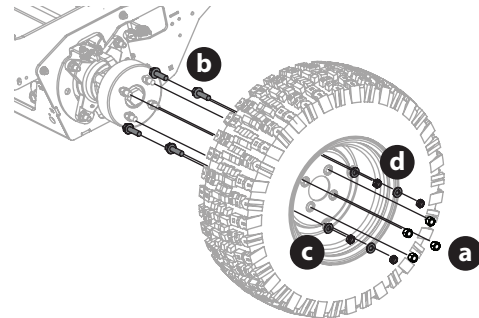

Figure 3
3. Remove the four lug nuts (a) to remove the inner wheel (Figure 3).
4. If replacing the inner tire, remove the four hex screws (b), washers (c) and jam nuts (d) that hold the mounting screws in place for the dual wheel adapter (Figure 3).